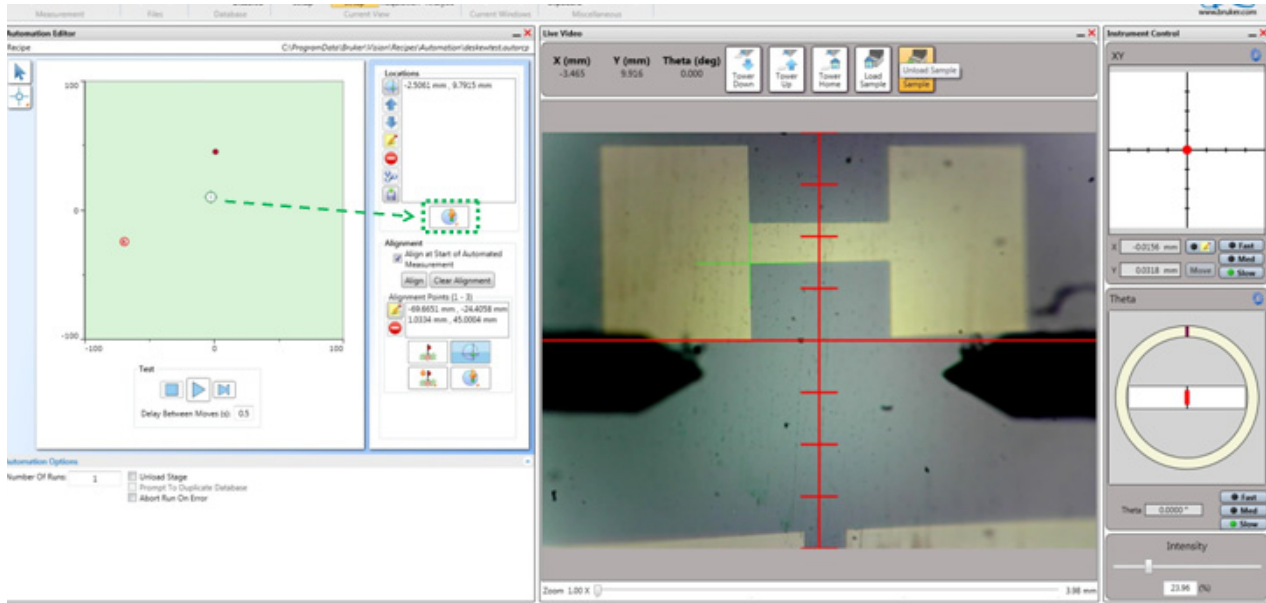

Figure 4-14: Setting a Deskew Measurement Point
- c. In the Automation Editor, click the **Measurement Site** button. A number outlined by a green circle now appears at that location (see Figure 4-14).